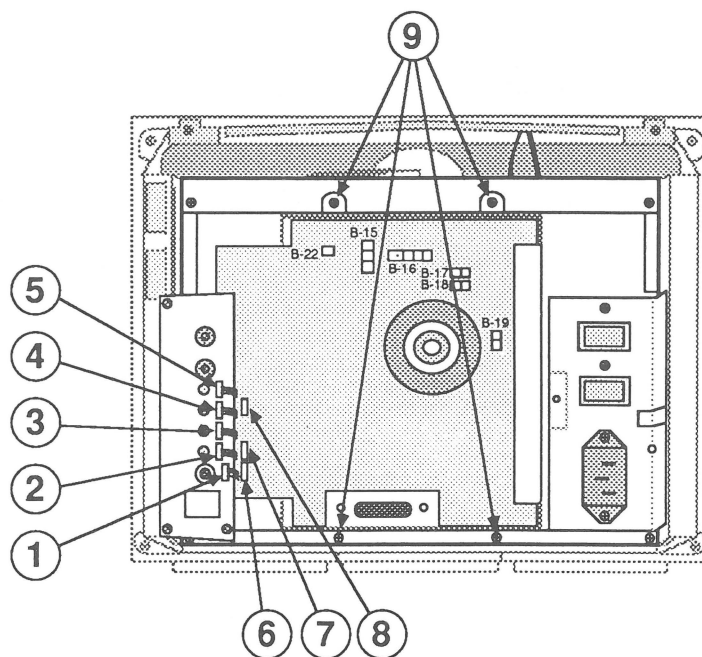

FIGURE 11
6. The wires of boards "B" and "H" connect to main logic board "D." Detach from boards "B" and "H" the connectors listed in Table 2 and shown in Figure 11. **Leave the wires connected to main logic board "D."**
8. Remove the four screws (Figure 11, #9) that secure the frame of the video color board assembly to the chassis frame. Remove the video color board assembly.
1. Set the video color board assembly in the chassis frame and replace the four screws (Figure 11, #9).
3. Locate the wires from main logic board "D" that are listed in Table 2. Route the wires between board "B" and board "H" and reconnect them to their connectors on boards "B" and "H" (Figure 11).